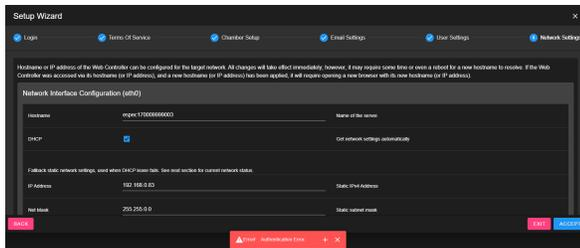

Figure 3.8: Error message for skipping admin password.
**NOTE:** An error message, as depicted in Figure 3.8, will be displayed if the admin password has not been reset. You can still use the factory password but you will put your system at high risks of security breach. This admin password can be reset later via the **Settings** menu.